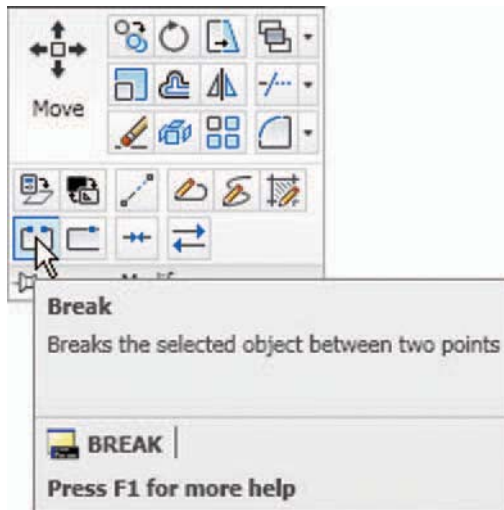

Fig. 5.35 The **Break** tool icon from the **Home/Modify** panel
2. Call **Break** – either *click* on its tool icon in the **Home/Modify** panel (Fig. 5.35), *pick* its tool icon in the **Modify** toolbar, *click Break* in the **Modify** drop-down menu, or *enter br* or *break* at the command line, which shows: